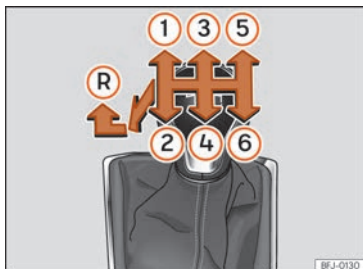

Fig. 244 Gear shift pattern of a 6-speed manual gearbox
The position of the gears is indicated on the gearbox lever »» Fig. 244.
- With the gearbox lever in neutral, push it downwards, move it to the left as far as it will go and then forwards to select reverse »» Fig. 244 (R).